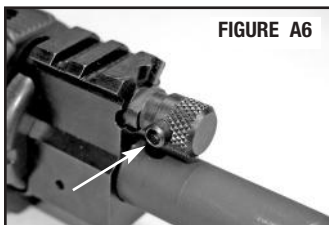

FIGURE A6
- When the spring loaded plunger is in 9 o'clock position it is in Takedown (removal) position (FIGURE A6).